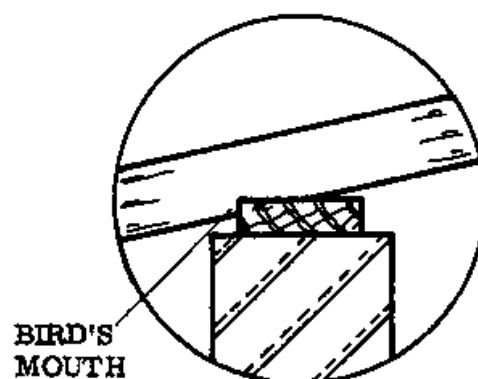

Fig. 2
- The rafters should always be fitted with a bird's mouth so that they rest securely on the wall plate (Fig. 2).